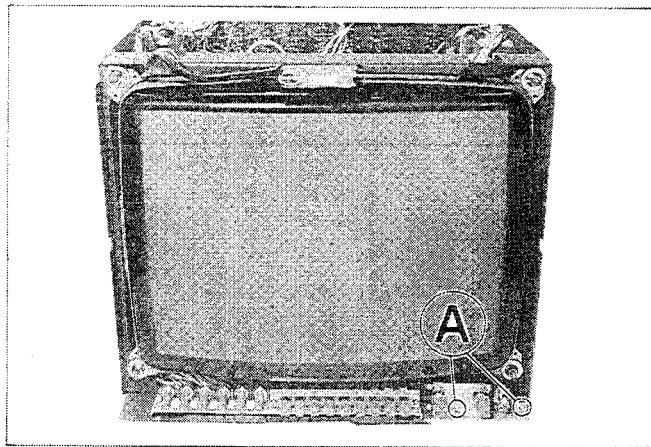

Fig. 5
Remove 2 screws (A) shown in Fig. 5 and pull the switches and printed-circuit board toward yourself.